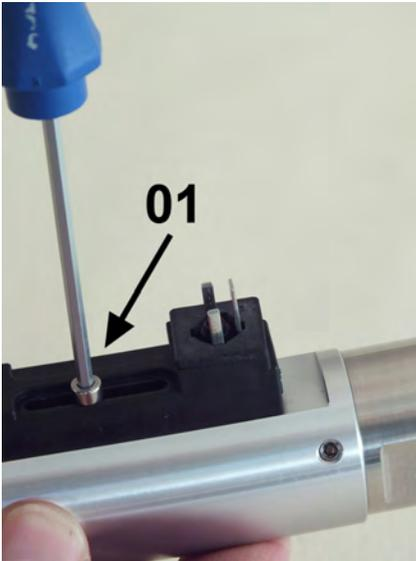

Fig. 55: Loosen set screw
3. ➤ Using a hex screwdriver (Fig. 55/01) remove the set screw of the switch contact
7. ➤ Insert set screw (Fig. 55/01) and tighten it slightly so that the switch contact can still move easily
9. ➤ Retighten the set screw (Fig. 55/1) observing the proper tightening torque ( Chapter 11.1 "Tightening torque" on page 72)